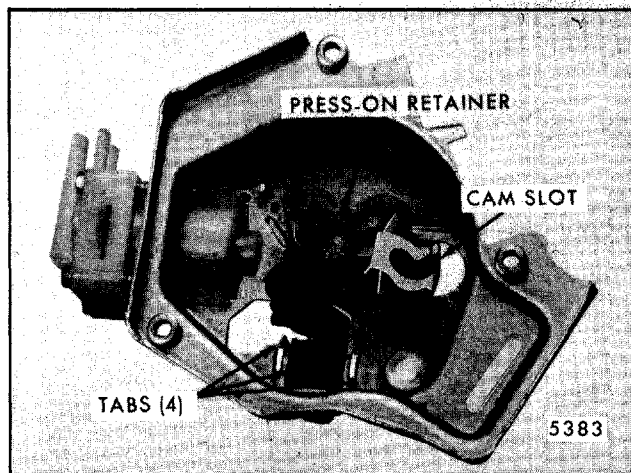

Fig. 2-108-Removing Four Lobe Cam
4. Chisel off the four bent-over tabs that secure the coil mounting bracket to the base (Fig. 2-108). Remove relay coil and terminal board assembly. To mount a replacement relay assembly, hold it securely against the base mounting surface and bend locking tabs over.